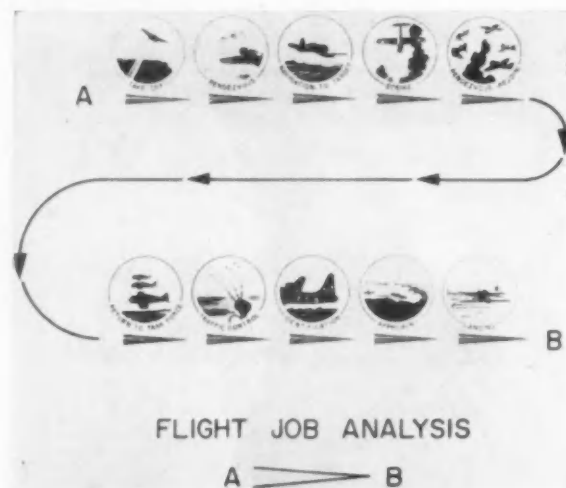

Fig. 1—All flights, whether land-based, water-based, propeller, or jet, must go through certain flight phases, as shown here.
As shown diagrammatically in Fig. 1, all flights, whether land-based, water-based, propeller, or jet, must go through the following flight phases: (1) take-off, (2) rendezvous (either with an aircraft or a point of departure), (3) navigation, (4) mission, (5), rejoin, (6) return, (7) identification, (8) traffic control, (9) approach, and (10) landing.